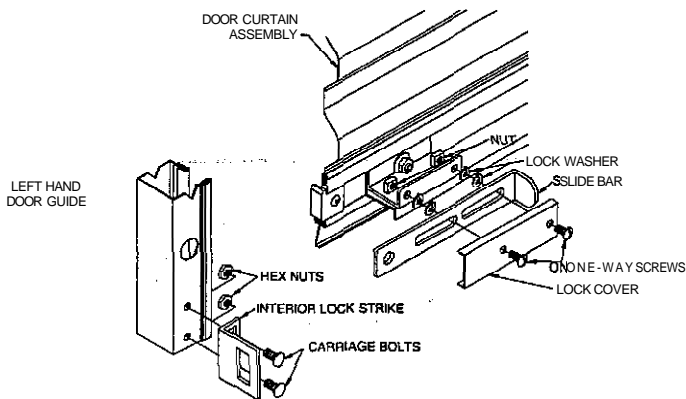

**Figure 15.**
12.2 Place the door in the closed position before installing the brush seal. Position brush seal so that it just touches the flat portion of the curtain. See Figure 15. Fasten brush seals to jamb every 12 inches with appropriate fasteners.